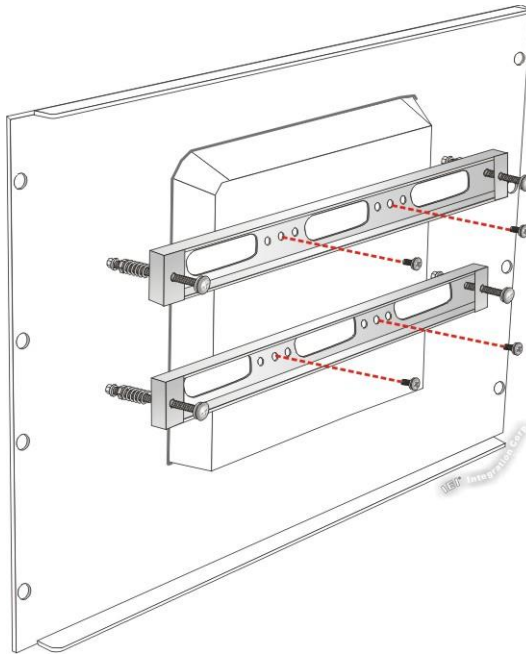

Figure 3-14: Securing Rack Mounting Brackets
Step 5: Secure the two rack mounting brackets to the rear of the panel PC by inserting the four retention screws into the VESA mounting holes and tightening them (**Figure 3-14**).